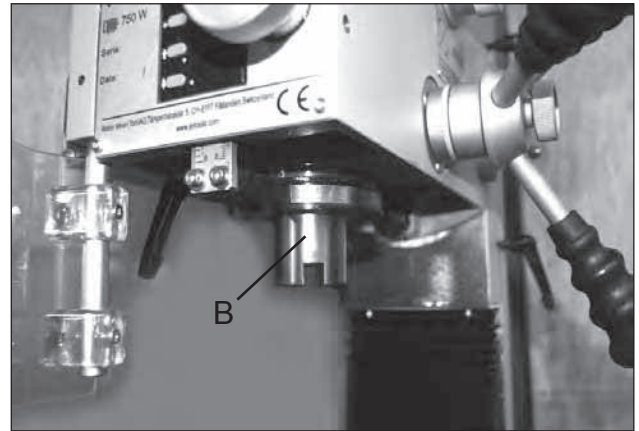
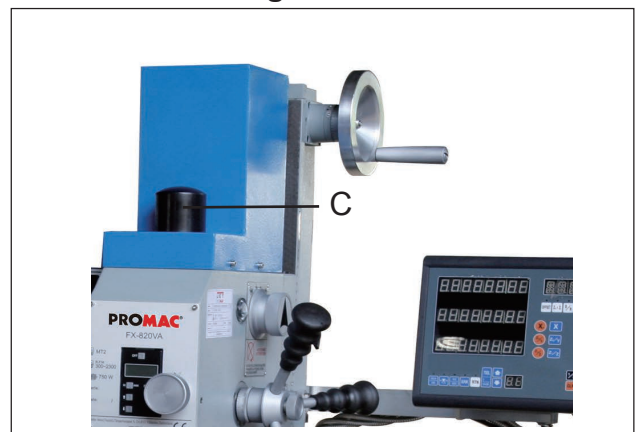

Fig. 15
Fig. 16
3. using a spanner to hold the spindle (B, Fig. 15) clamping screw (C, Fig. 16) .